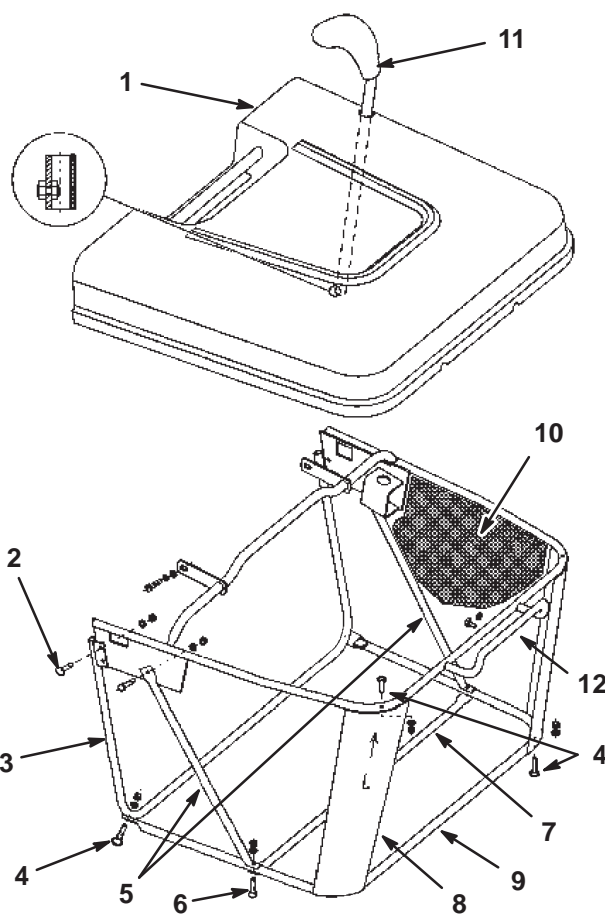

**Figure 3**
2. Attach the hitch with two bolts, washers, and nuts (Fig. 3).